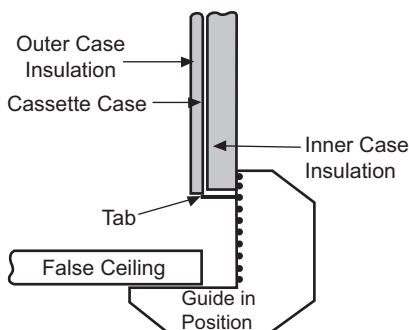

Fig. 40 — Positioning Installation Guide
1. Hold the tab on the installation guide against the bottom of the cassette case with the guide pointing away from the cassette. See Fig. 40. Adjust the height of the cassette until the guide is level with the bottom of the false ceiling.